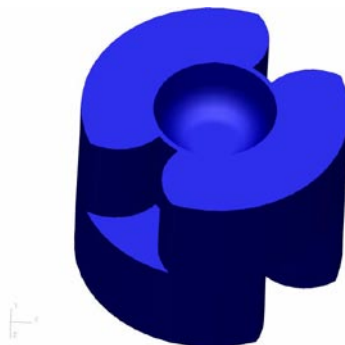

Fig. 12.5-2
- In case it could be necessary to rotate the centrifuge motor and aligned it to the chuck shaft in a different position. This must be done rotating the motor and inserting it into the chuck shaft in the opposite side, to change the position of the plastic joint which makes the coupling between the two shafts (Fig.12.5-2).